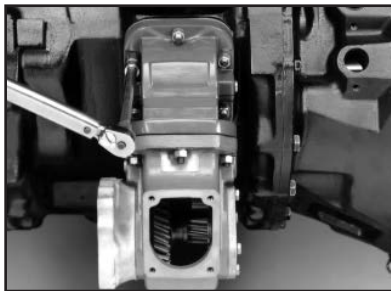

Figure 10
- 8-Bolt to 45-50 lb-ft (6.22-6.91 kg.m.) (**Fig 10**).